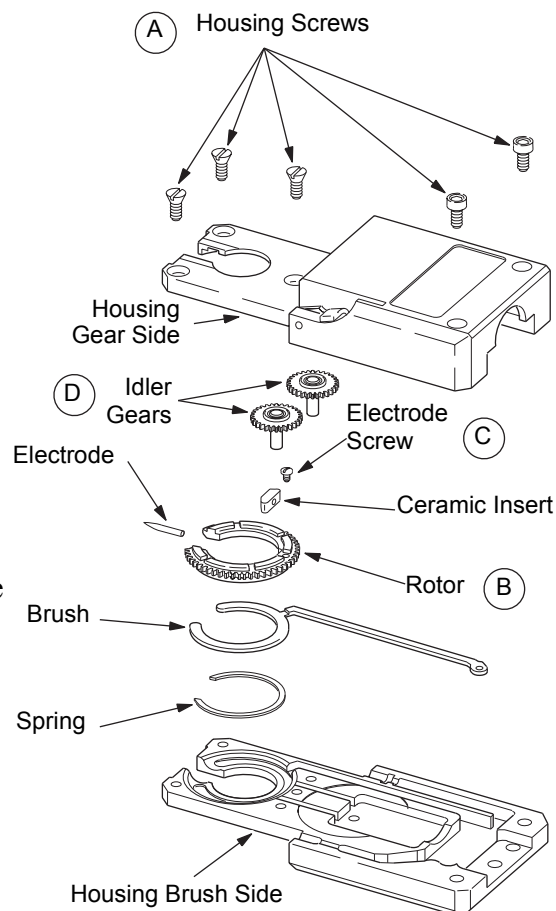
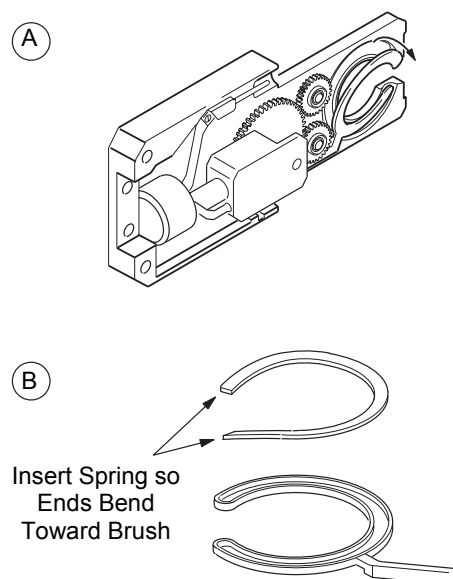

Figure 29 Removing Series 4 Micro Weld Head Components for Cleaning
Figure 30 Lifting the Weld Head Brush for Cleaning
To disassemble the Series 4 micro weld head for cleaning, use the following instructions. See Figure 29 and Figure 30 for part references.
2. Remove the five screws from the weld head housing. See Figure 29(A).
4. Remove the rotor by lifting it clear of the brush side housing. See Figure 29(B).
5. Loosen the electrode clamping screw, then remove the electrode and ceramic insert. See Figure 29(C).
8. Remove and inspect the two idler gears for damage. Replace if necessary. See Figure 29(D).
10. See Figure 30(A). Hold the micro weld head as shown. Gently lift the brush from the brush side housing noted in the figure and rotate it outward a few degrees.
11. Note the position of the spring in the groove in the weld head brush. The spring ends bend toward the brush when the spring lays in the groove. Remove the spring. See Figure 30(B).